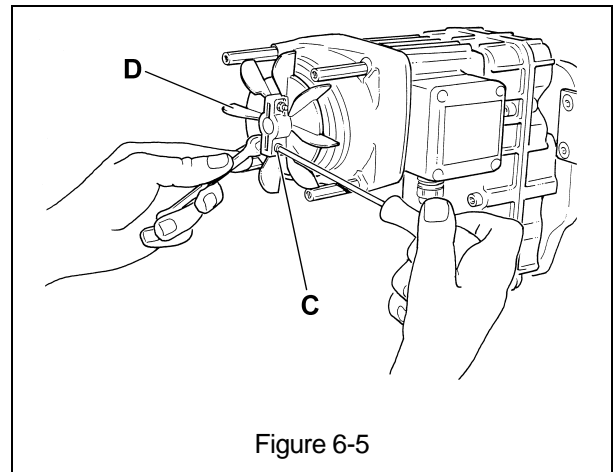

Figure 6-5
- 1) Remove the Lock-Nut (C), Fan (D), external Thickness Washers (E), Snap Ring (F), Pressure Washer (G) and Spring (H) (see Figure 6-5 and 6-6).
- 1) Remove the Lock-Nut (C), Fan (D), Snap Ring (F), Pressure Washer (G), Spring (H) and all Thickness Washers (E) (see Figure 6-5 and 6-6).